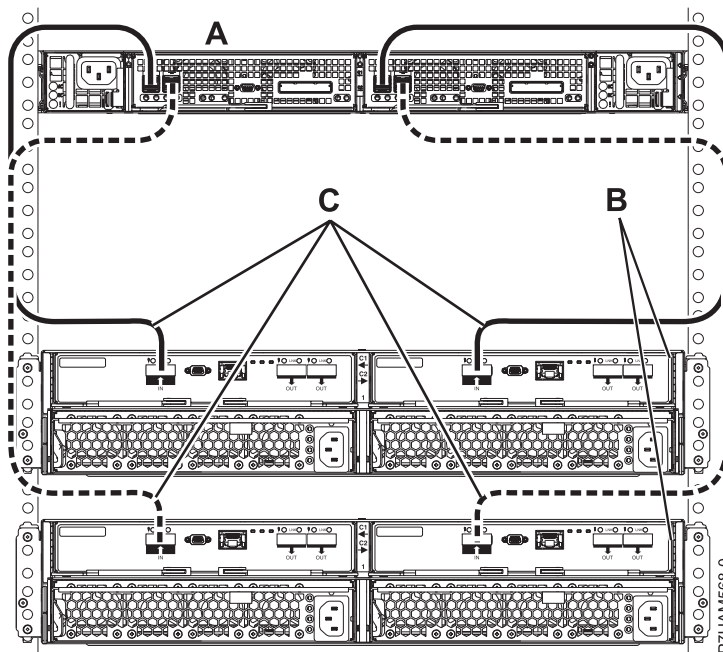

Figure 33. Mode 1 connection of two 58/87 disk drive enclosures by using EX cables to a PCIe storage enclosure
- n. Perform the mode 1 connection of two 58/87 disk drive enclosures (B) by using EX cables (C) to a PCIe storage enclosure with support for SAS disk drawers (A) as shown in Figure 33.
- Each internal adapter in the PCIe storage enclosure (A) has access to the other adapter and to all disk drive bays.
- Both EX cables (C) from the same 58/87 disk drive enclosure must be attached to the same numbered port on the PCIe storage enclosure as shown in Figure 33.